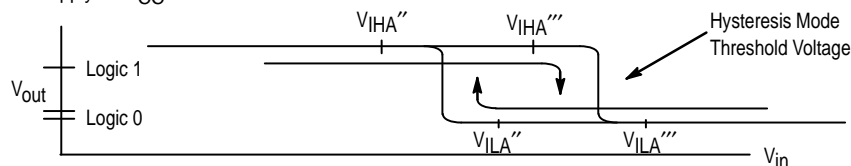

Figure 1. Hysteresis Mode Threshold Voltage
2. Output latched to logic high state prior to test. V_{IHA}' , V_{ILA}' are standard logic 1 and logic 0 MTTL threshold voltages. V_{IHA}'' , V_{ILA}'' , V_{IHA}''' and V_{ILA}''' are logic 1 and logic 0 threshold voltages in the hysteresis mode as shown in Figure 1 on page 3-2.
- Output latched to logic high state prior to test. V_{IHA'}, V_{ILA'} are standard logic 1 and logic 0 MTTL threshold voltages. V_{IHA''}, V_{ILA''}, V_{IHA'''} and V_{ILA'''} are logic 1 and logic 0 threshold voltages in the hysteresis mode as shown in Figure 1 on page 3-2.
2. Output latched to logic high state prior to test. V_{IHA'}, V_{ILA'} are standard logic 1 and logic 0 M TTL threshold voltages. V_{IHA''}, V_{ILA''}, V_{IHA'''} and V_{ILA'''} are logic 1 and logic 0 threshold voltages in the hysteresis mode as shown in Figure 1 on page 3-2.